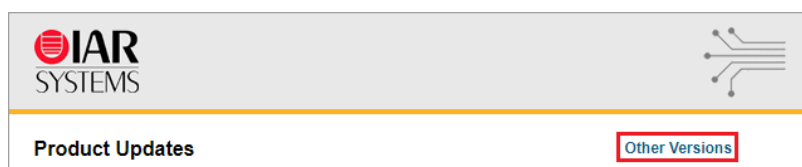

Figure 3: Install IAR Embedded Workbench
3. Click on **Other Versions** to download an old installer version. See Figure 3.